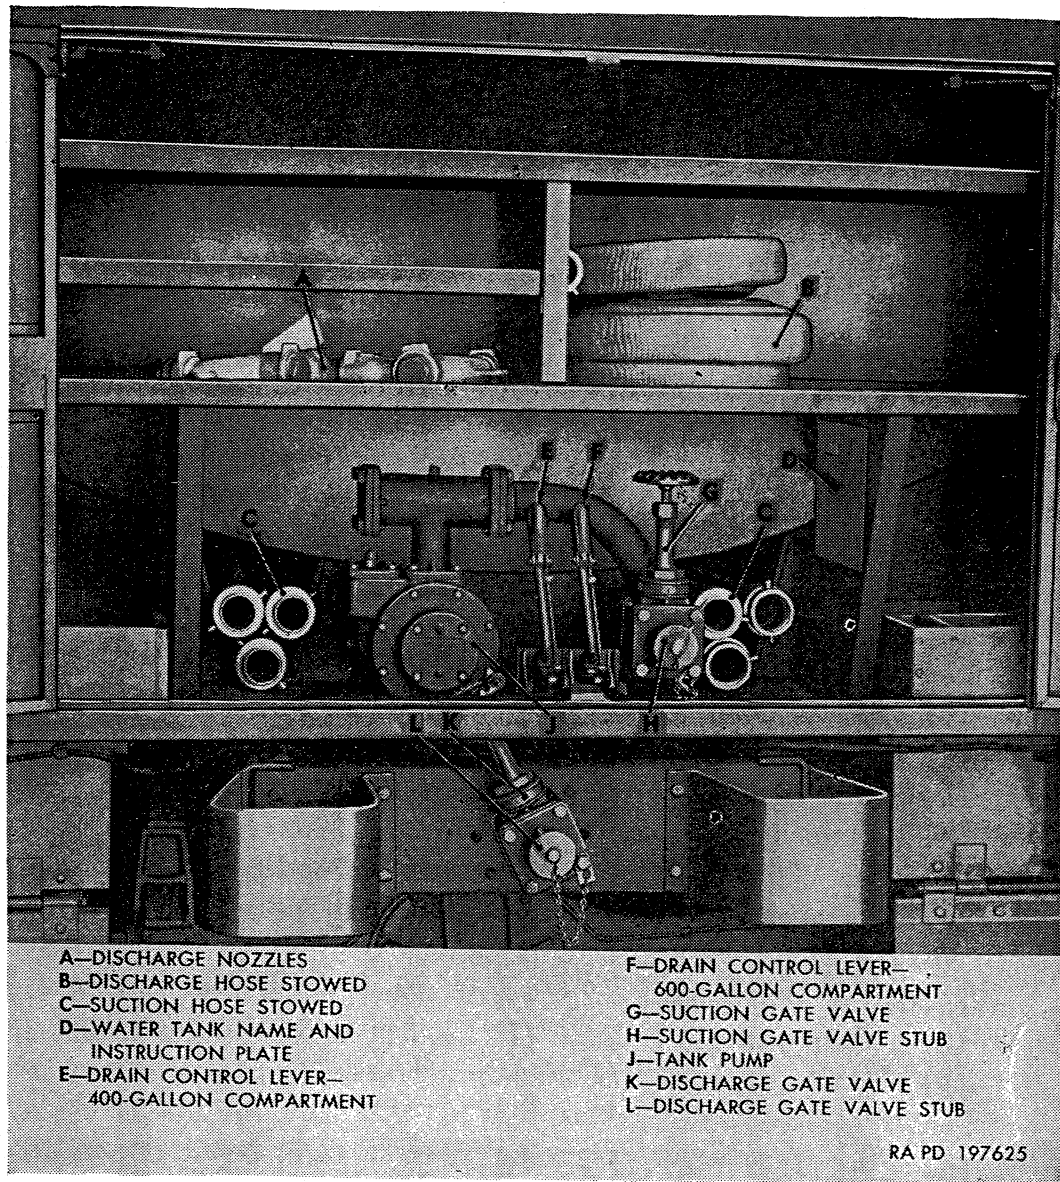
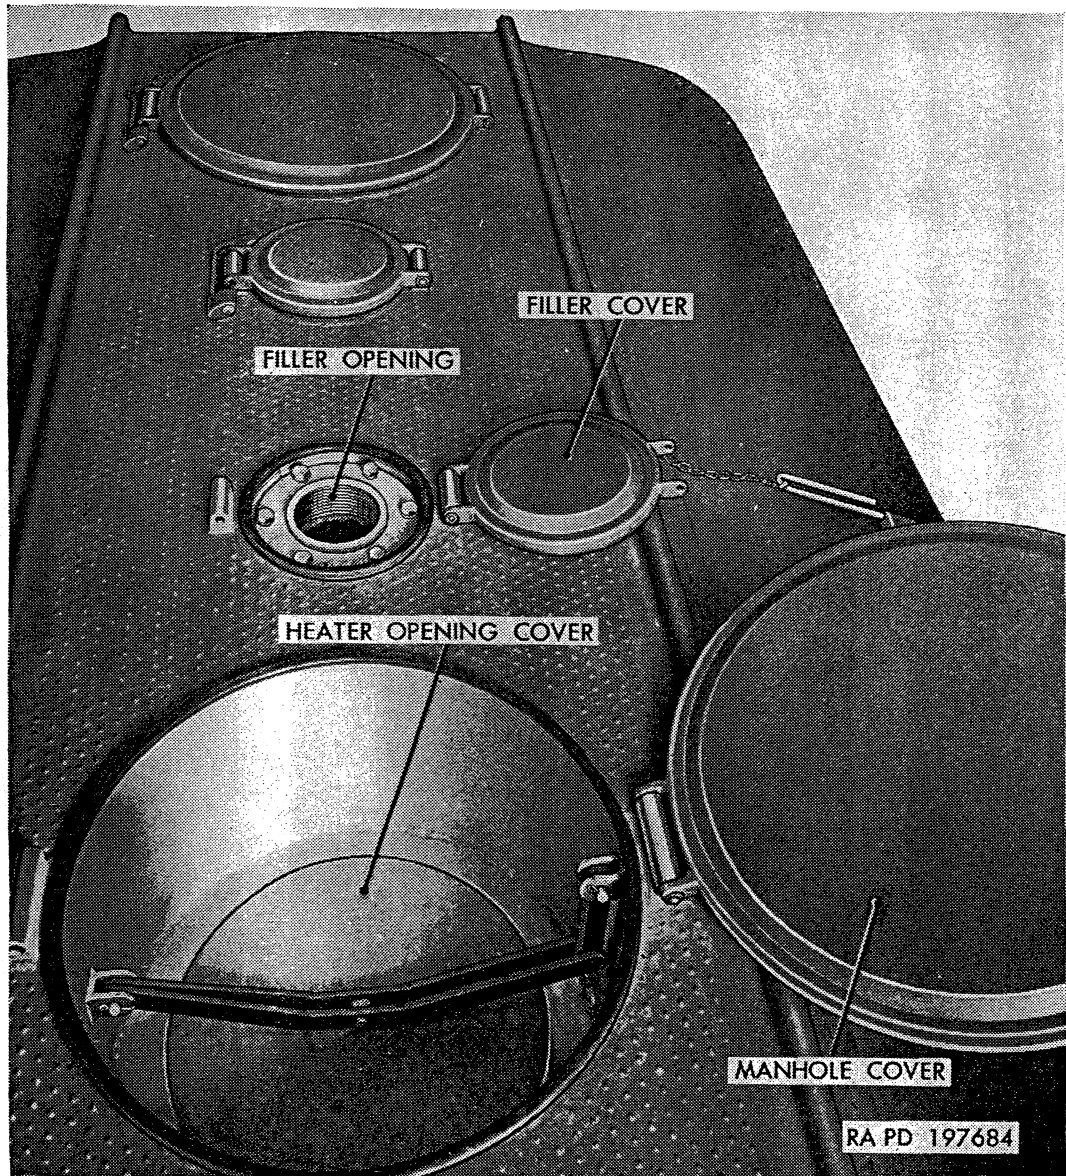
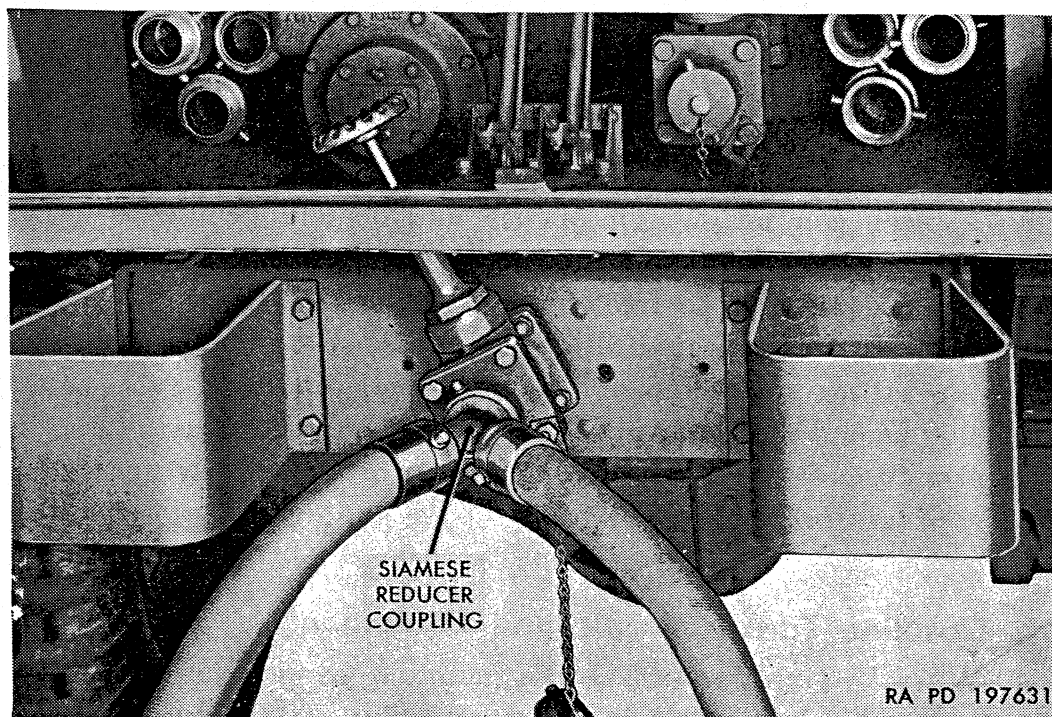

Figure 55. Water tank pump and equipment compartment.
Figure 58. Water tank manhole and filler covers and openings.
Figure 59. Use of siamese reducer coupling.
a. General. Water tank body, mounted on water tank truck M222 (figs. 12 and 13), includes a 400-gallon compartment at rear of body and a 600-gallon compartment at front. Discharge and suction gate valves (G and K, fig. 55) connected to a pump are mounted in rear compartment. Tank compartments are filled through filler openings (fig. 58) in top of body.
(5) *Water tank body name and instruction plate.* Plate (fig. 53, and D, fig. 55), on inside wall of rear compartment, includes manufacturer's name, serial number, ordnance stock number, and brief instructions regarding the use of suction and discharge equipment.
ment as shown in figure 54 is stowed in rear compartment (fig. 55). Use of the equipment is explained in paragraph 53.
d. Discharge and Suction Controls. The water pump discharge gate valve, suction gate valve, and drain valve control operating levers are located in rear compartment (fig. 55).
- (5) After pumping is completed and truck is to be stopped, move transmission shift control lever to N position, transfer lever to DOWN NEUTRAL position, and power-take-off lever to DOWN NEUTRAL position.
d. Operation of Suction and Discharge Equipment. The gravity discharge gate valve and the pump suction gate valve (G and K, fig. 55) must be closed before all operations begin. Turn gate valve handwheels clockwise until closed. Both drain valve control operating levers must be pushed completely forward.
- (a) Attach 2 x 1½ reducer (F, fig. 54) to suction gate valve stub (H, fig. 55).
- (d) Open filler cover (fig. 58) of tank compartment to be filled. Place one end of discharge hose in filler opening.
- (g) After compartment or compartments are filled, stop pump (*b* or *c* above) and close suction and discharge gate valves. Close and fasten filler covers (fig. 58).
- (4) *Filling tank from hydrant.*
- (c) Place end of discharge hose into either tank opening (fig. 58).
- (5) *Use of siamese reducer coupling.* Siamese reducer coupling (E, fig. 54) may be attached to discharge gate valve stub (L, fig. 55) to permit use of two discharge hose lengths as shown in figure 59.
each compartment is opened and heater opening cover removed as shown in figure 58.